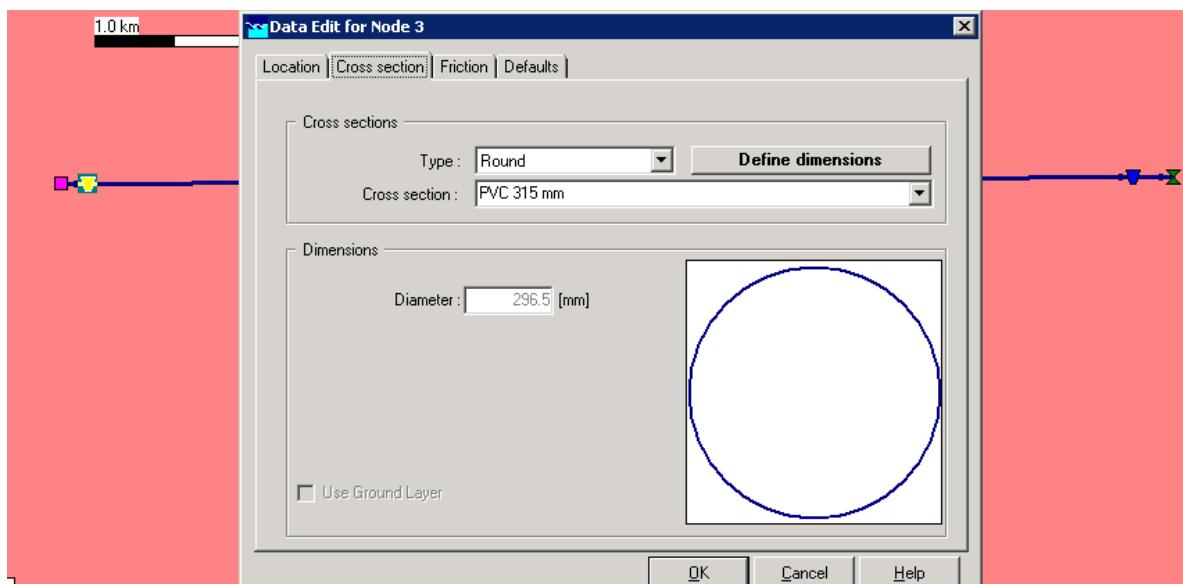

Figure 7
3. Add Cross sections nodes following the previous first step and adjust the properties of the pipe (diameter, upper and lower level, shape, friction, location). **Important!**: the temperature model works only with circular pipes (Figure 7).